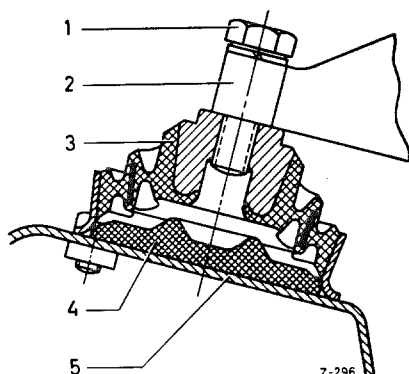

Fig. 22-1/3
In order to prevent the engine from sinking too heavily into the front rubber mountings (3), the buffer plate (4) Part No. 621 223 00 65 is added between the rubber mounting (3) and the front axle support (5) in the case of Models 180 a, 180 b, 180 D, 180 Db, 190, 190 b, 190 SL, 190 D, 190 Db, 220 S, and 220 SE and on Model 219 with hydraulic automatic clutch (Fig. 22-1/3).